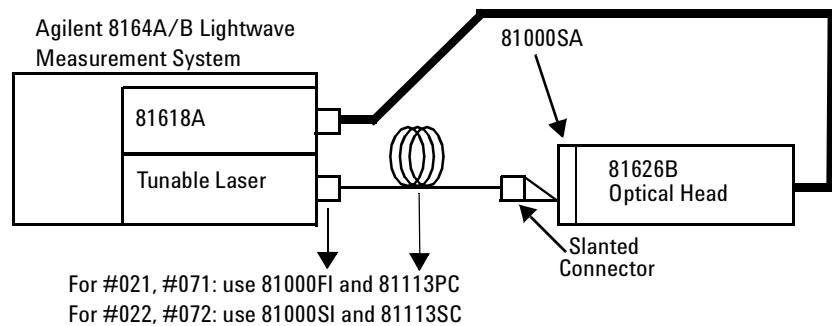

Figure 12 Test Setup for the Maximum Output Power Tests
- 1 Set up the equipment as shown in Figure 12.
- 1 Set up the equipment as shown in Figure 12